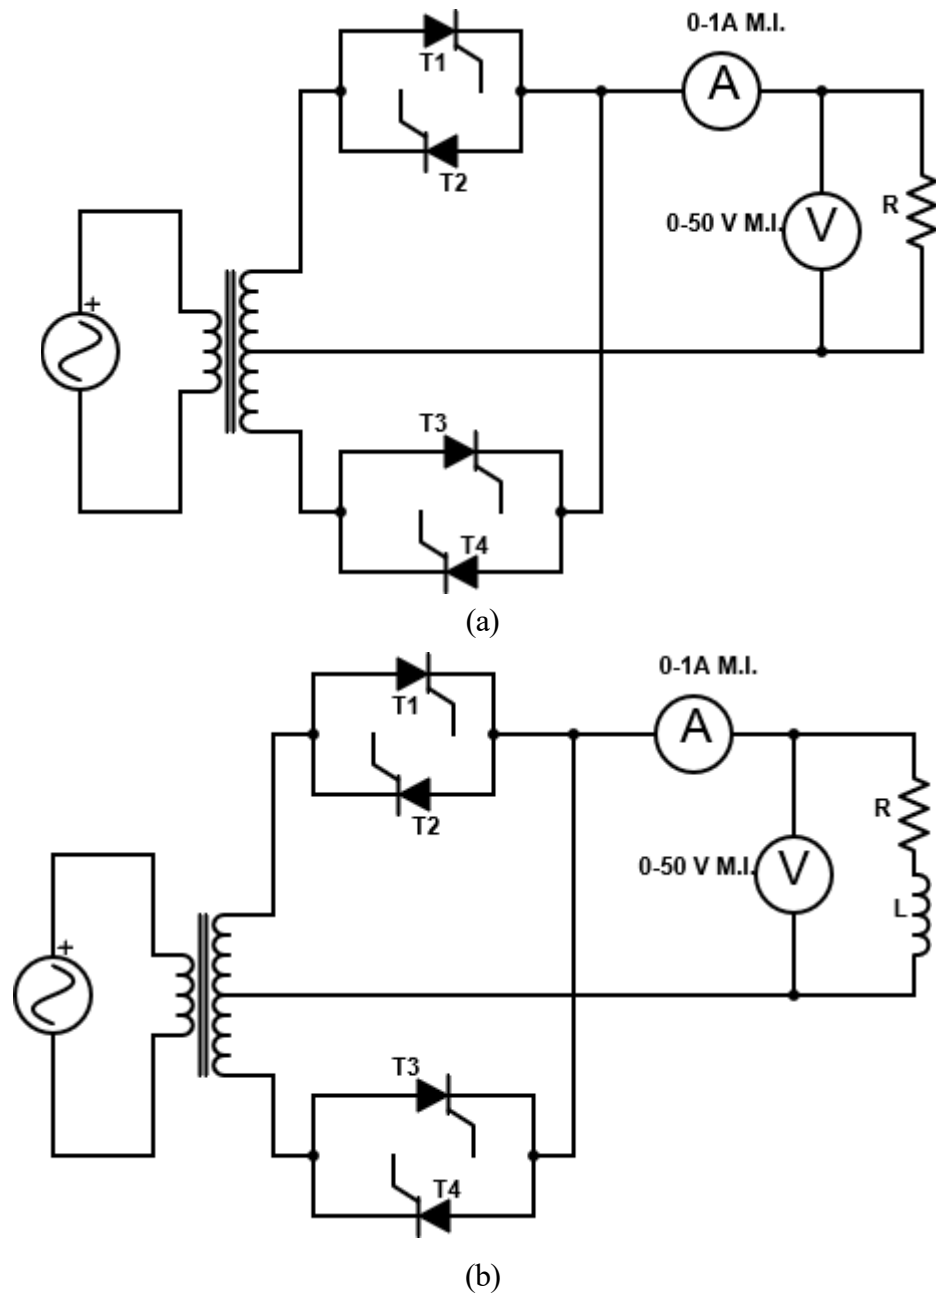

Fig. 6.1 Cycloconverter circuit with (a) R load and (b) R-L load.
1. All connections are made as per the circuit diagram given in Fig. 6.1.